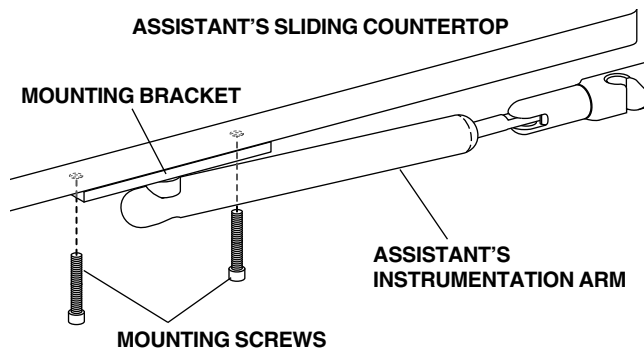

FIGURE 9
31. Use a 3/16" hex key to tighten the mounting screws (see Figure 9).